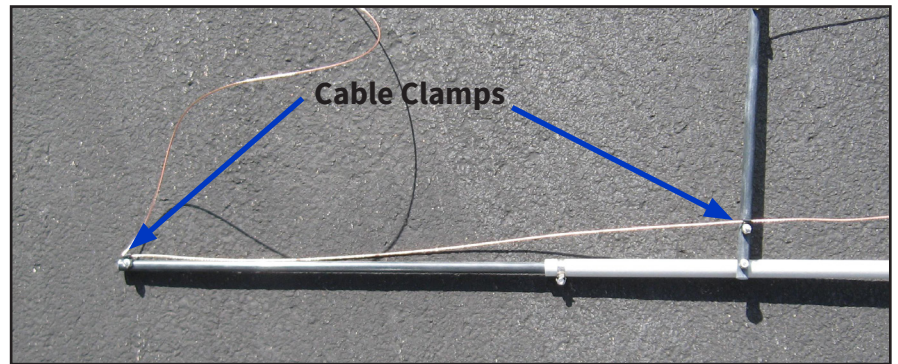

Fig. 80
- At the other end of the wire from the previous step, repeat the previous step to fasten the wire within the Black Cable Clamps located on the other side of the Boom at the Reflector End of the antenna as shown in Fig. 80.